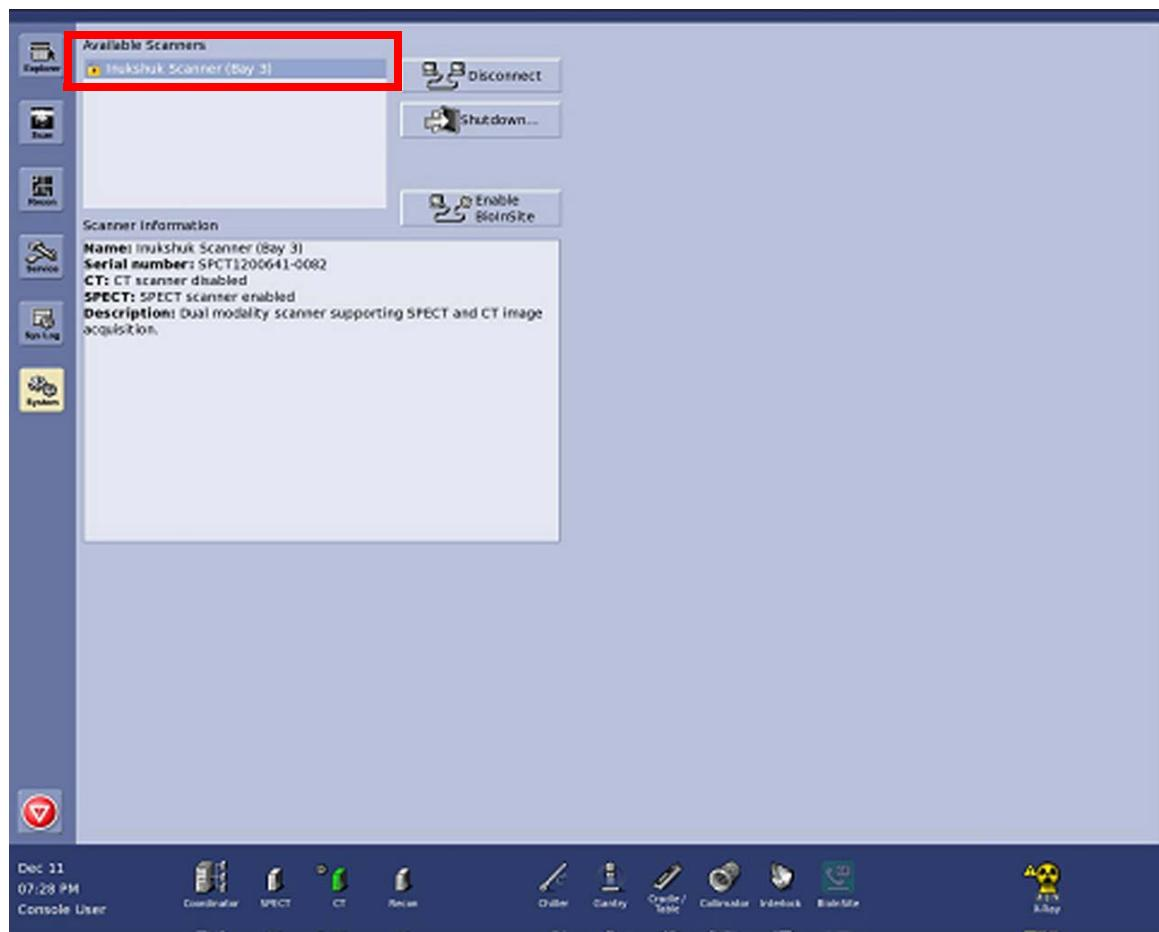

Figure 4-2
5. Highlight the desired scanner in the Available Scanners window. Note, it will take approximately 5 minutes from the time you press the green button to the time when the scanner appears in the Available Scanners window. (Figure 4-2).